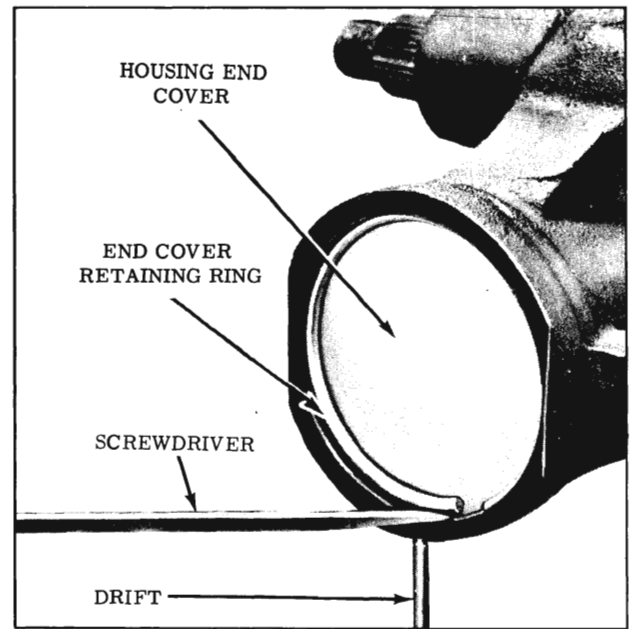

Fig. 4-250 Removing End Cover Retaining Ring
1. Rotate end cover retainer ring so that one end of the ring is over hole in side of housing then force end of ring from its groove and remove ring. (Fig. 4-250)